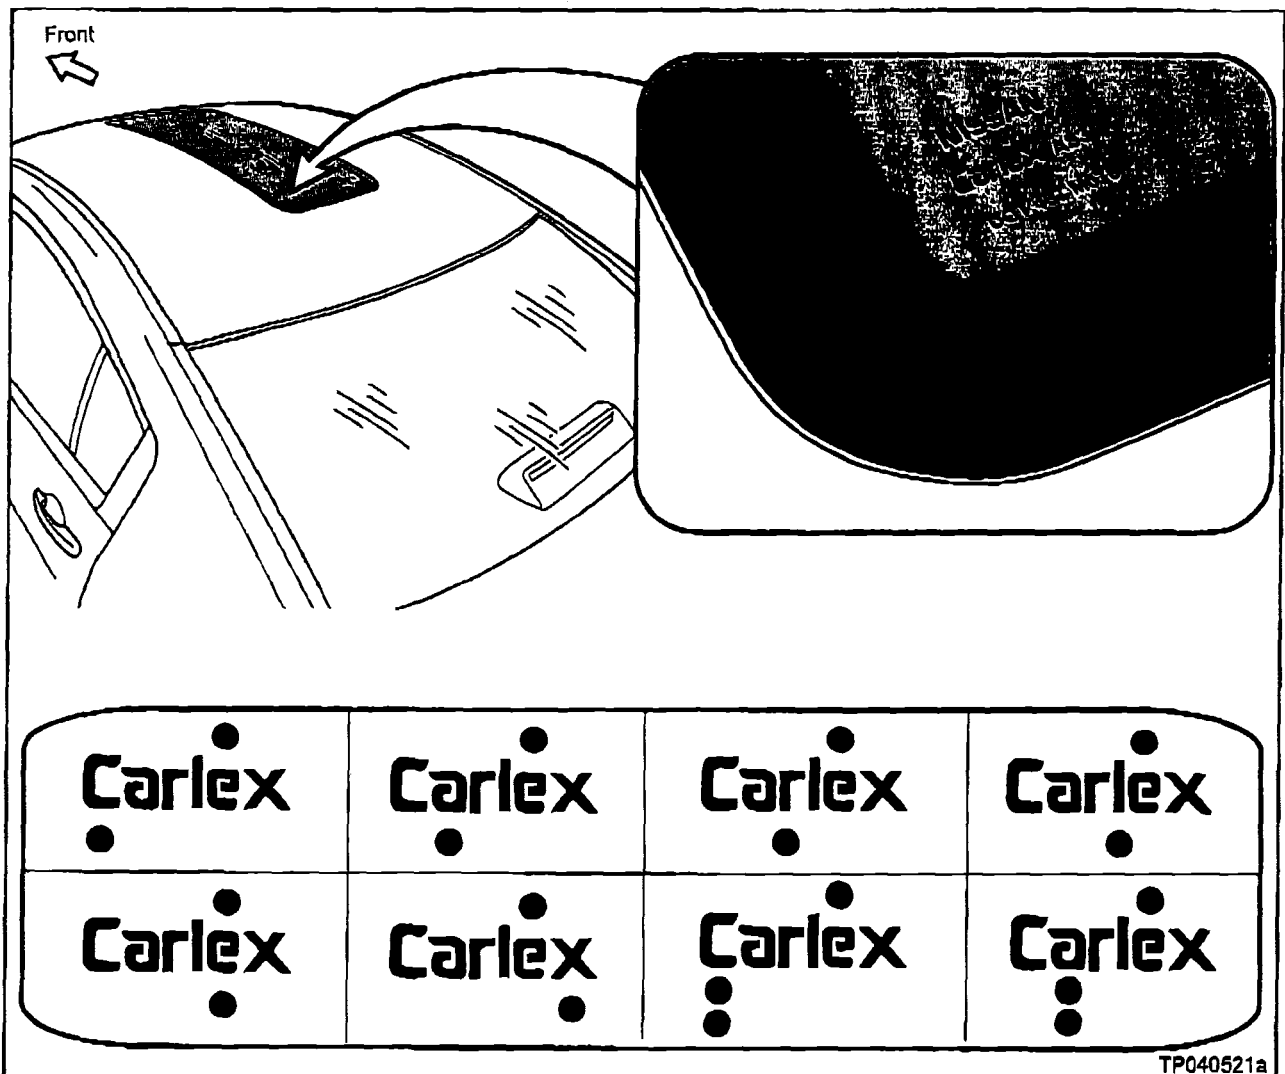

Figure 1
- Replace the Glass if the dots around the "CARLEX" name (located at the driver's side rear corner of the Glass) look like any one of the examples shown in Figure 1. In this case continue with step 2 of this procedure.